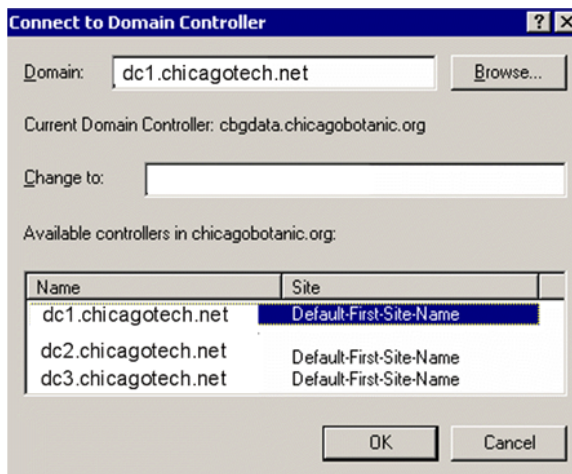

Figure 2. Connect to Domain Controller Dialog Box
2. Right-click **Active Directory Domains and Trusts** and select **Connect to Domain Controller** to launch the Connect to Domain Controller dialog box (Figure 2).